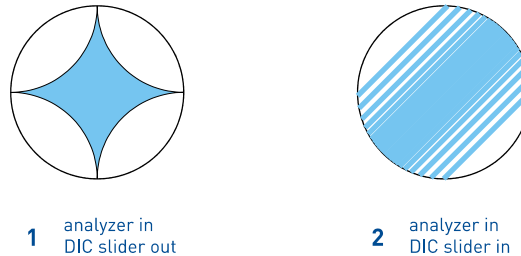

figure 37 DIC adjustment: Typical observations
- Plug the auxiliary microscope into the place of one eyepiece. If such is not available, just remove one eyepiece. Now look into the auxiliary microscope or simply into the eyepiece aperture and turn on the analyser potentiometer until a black extinction cross becomes visible. For an idea on how this cross looks like, refer to figure 37 "DIC adjustment: Typical observations" on page 65.